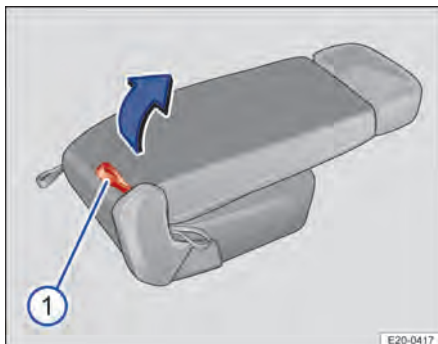

Fig. 66 Second row of seats: Fold seat forward.
2. Pull the corresponding red loop → Fig. 66 ① on the back of the seat and fold the seat forwards.